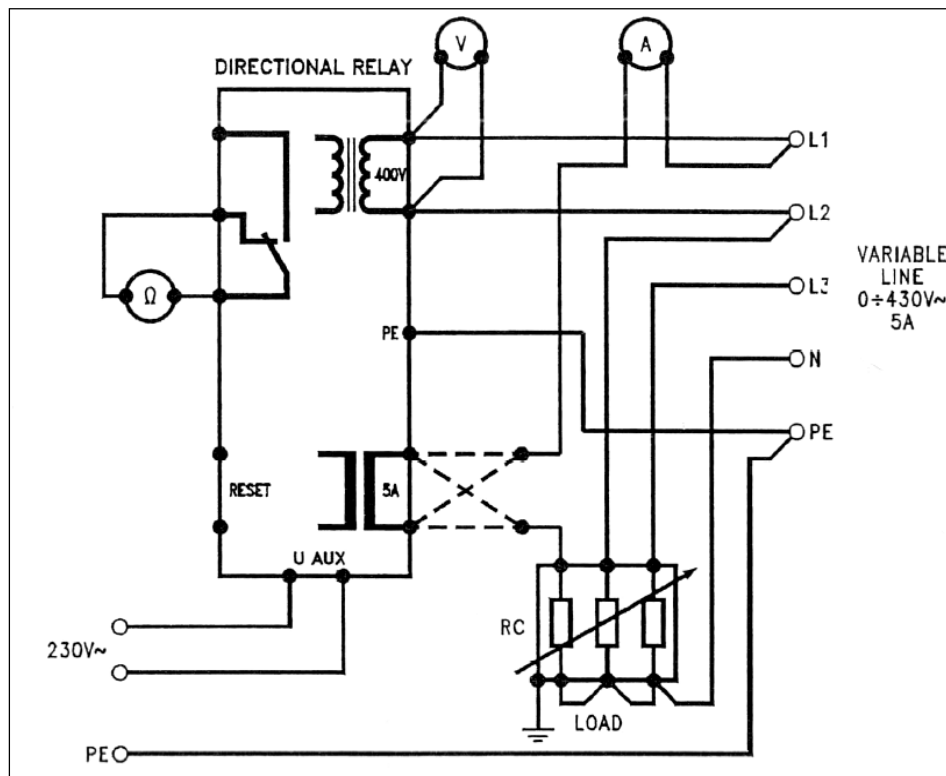

Figure 2.8 Connection diagram for testing a measurement relay of the active components of the current – power return (maximum current directional relay).
1. Follow the electrical diagram of figure 2.8